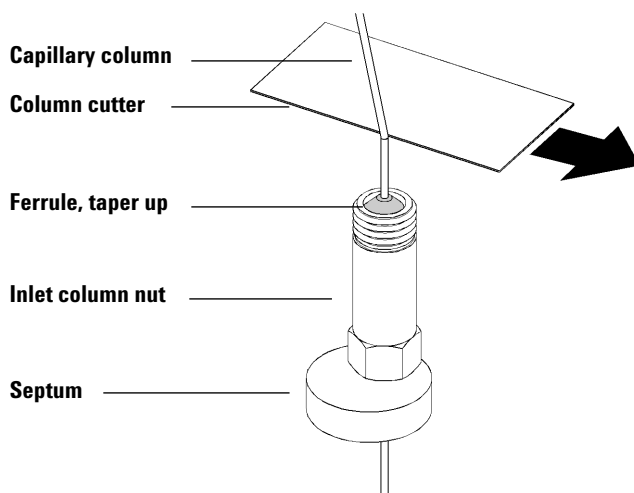

Figure 7 Preparing a capillary column for installation
- 1 Slide a septum, column nut, and conditioned ferrule onto the free end of the column (Figure 7). The tapered end of the ferrule should point away from the column nut.